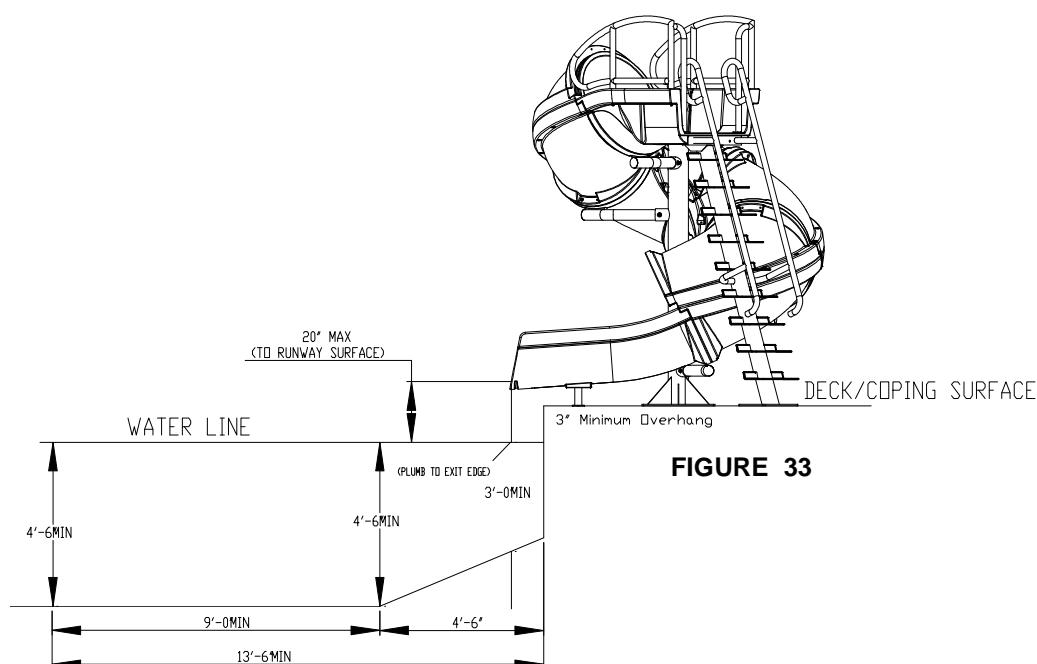

FIGURE 33
- A. The slide exit runway surface shall not exceed twenty inches (20") above the water surface as shown in FIGURE 33.
- C. The minimum depth of water below the exit lip of the slide shall be three feet (3') and increase to four feet six inches (4'-6") at Pt. A, which is a distance of four feet six inches (4'-6") from the exit lip of the slide as shown in FIGURE 33.
- D. A minimum depth of four feet six inches (4'-6") shall be maintained at a distance of nine feet (9') along the extended centerline of the slide from Pt. A. as shown in FIGURE 33.